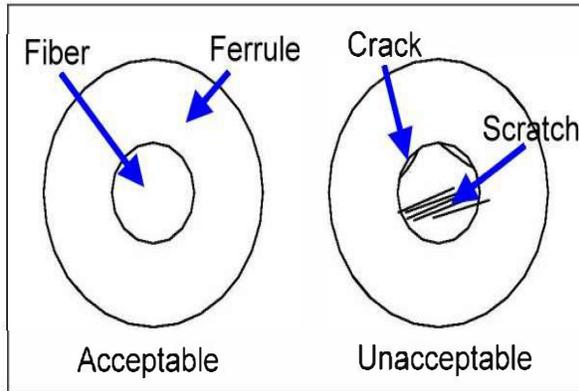

Fig 13
Step 13 Clean connector end and use a X200 microscope to inspect the end surface of the connector. No adhesive, crack and scratch should be visible. See Fig. 13.